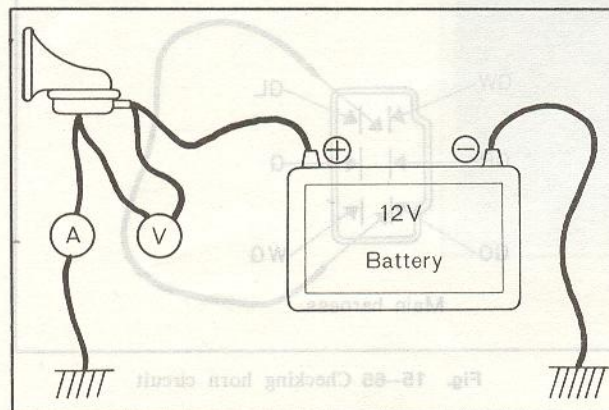

Fig. 15-58 Adjusting horn
2. Connect the ammeter and volt-meter as shown in Fig. 15-58. Turn the adjusting screw until the current draw is 1.5 ~ 2.5 amperes at 12 volts.